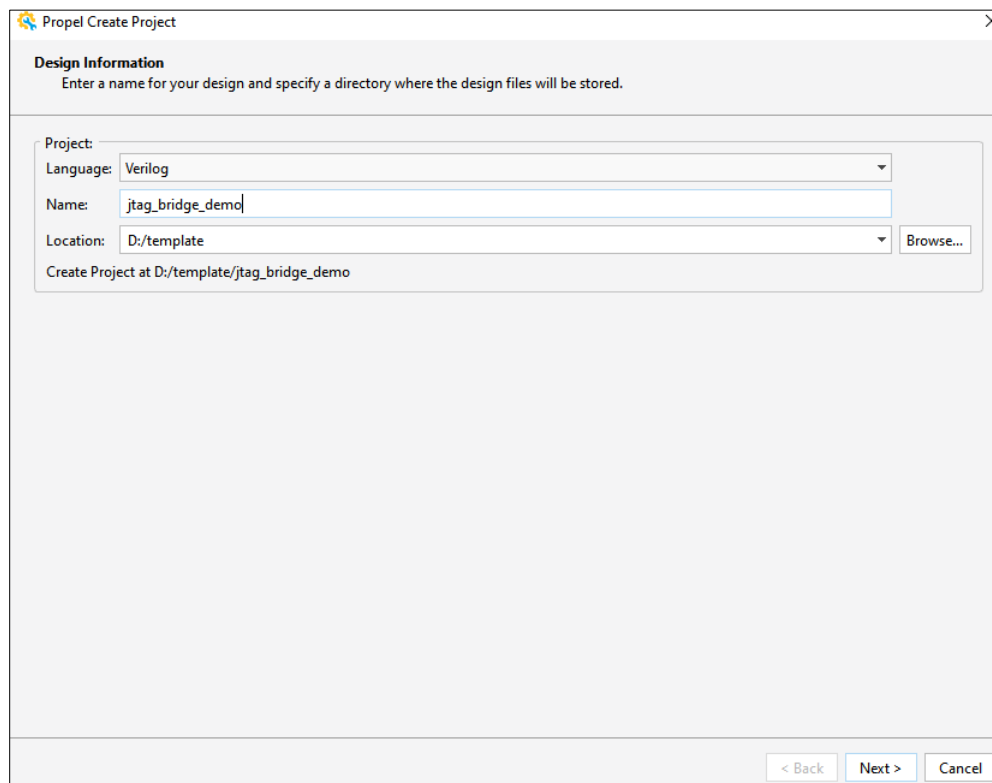

Figure 4.2. Name the Design and Select the File Path
2. Name the SoC design and select the language and the file location (Figure 4.2).